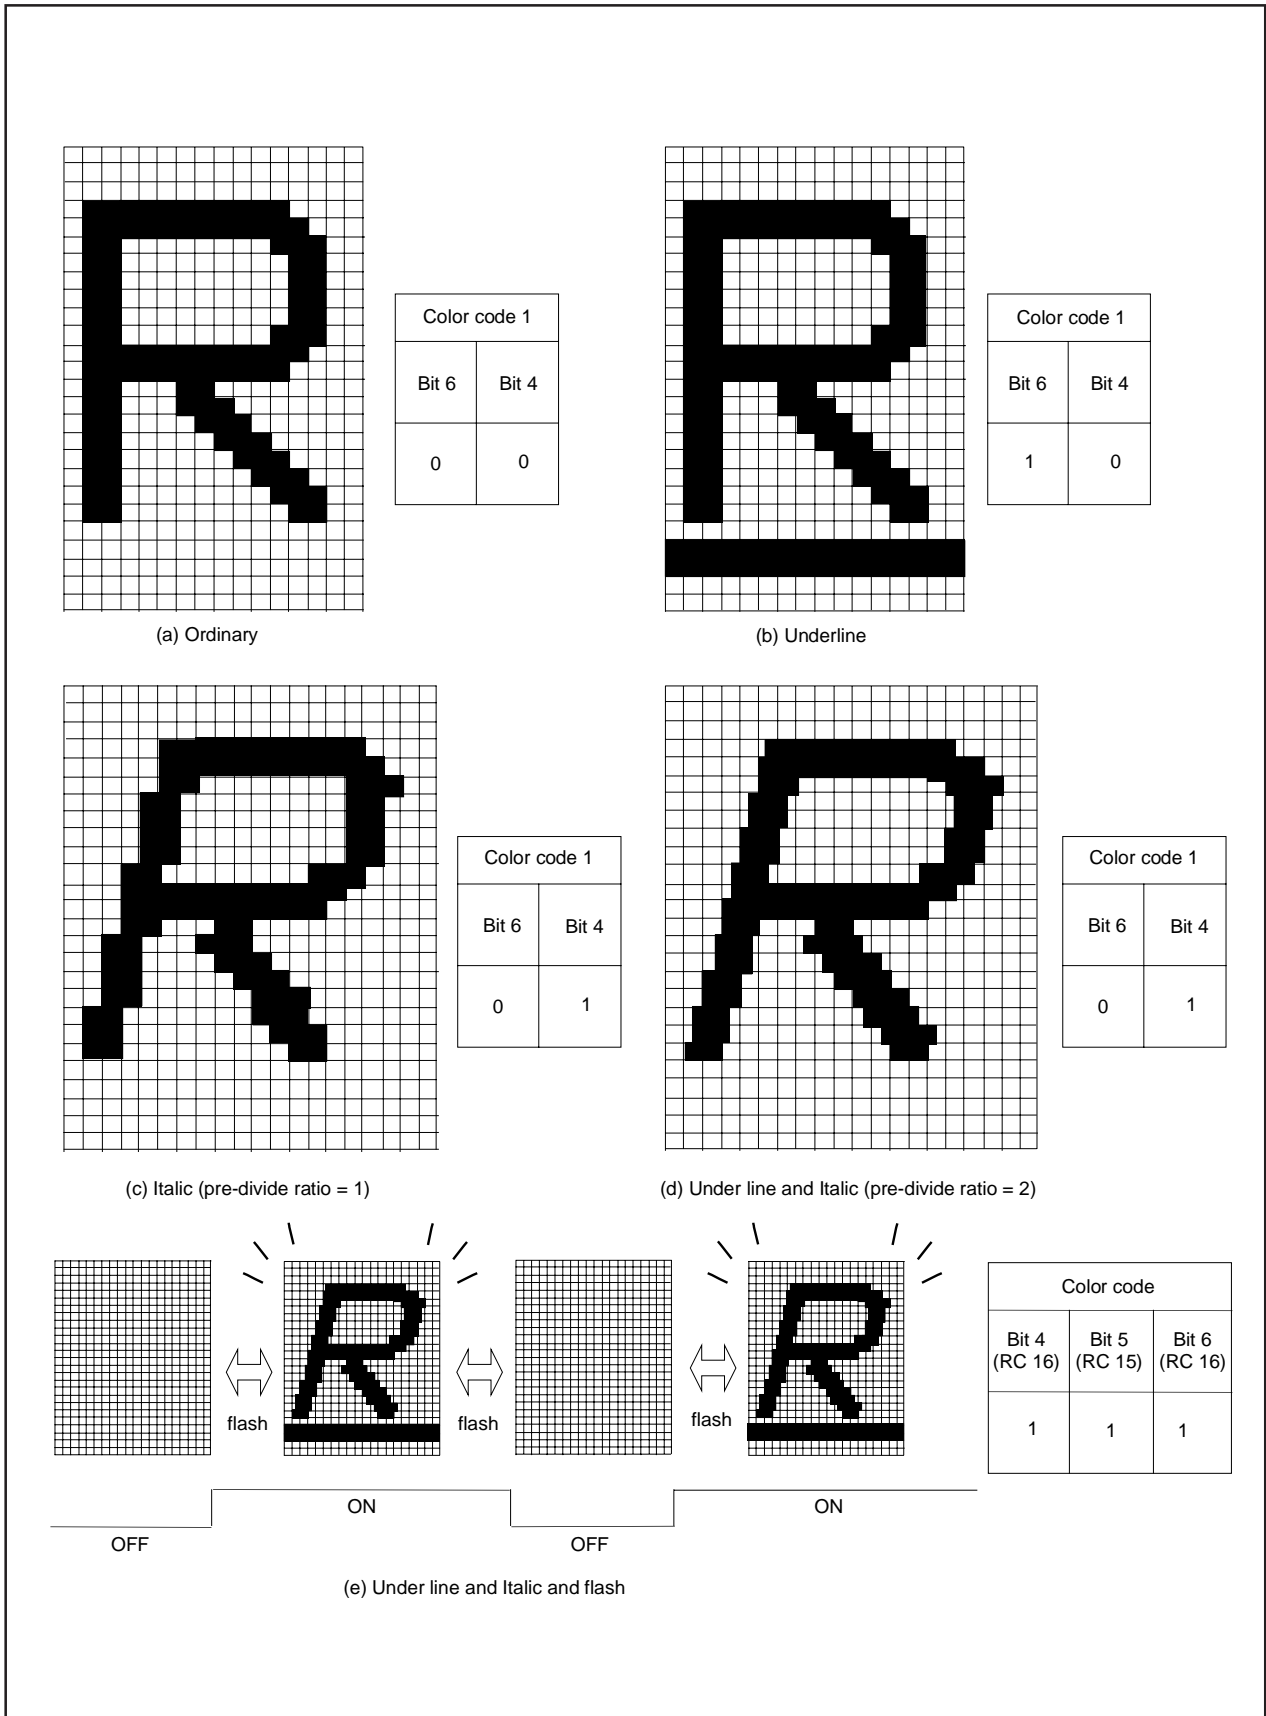

Figure 2.16.32 Example of attribute display (in CC mode)
- 4: When the pre-divide ratio = 1, the italic character with slant of 1 dot  $\times 5$  steps is displayed ; when the pre-divide ratio = 2, the italic character with slant of 1/2 dot  $\times 10$  steps is displayed (refer to Figure 2.16.32 (c), (d)). However, when displaying the italic character with the pre-divide ratio = 1, set the OSD clock frequency to 11 MHz to 14 MHz.